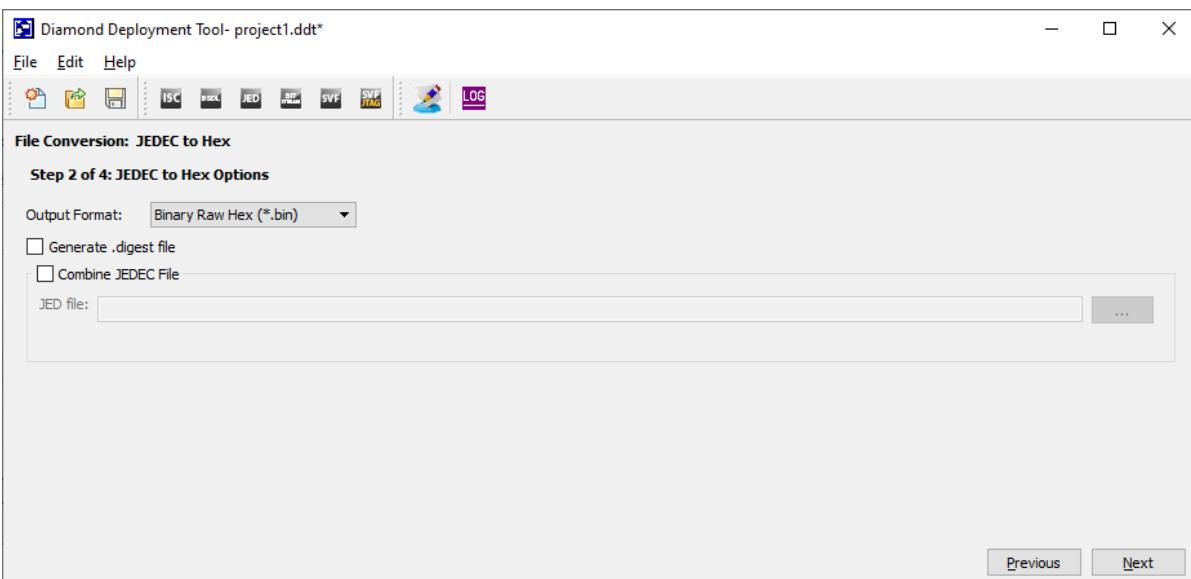

Figure 5.4. Select Output Format
6. Select **Binary Raw Hex (*.bin)** as the *Output Format* and click **Next** as shown in Figure 5.4.